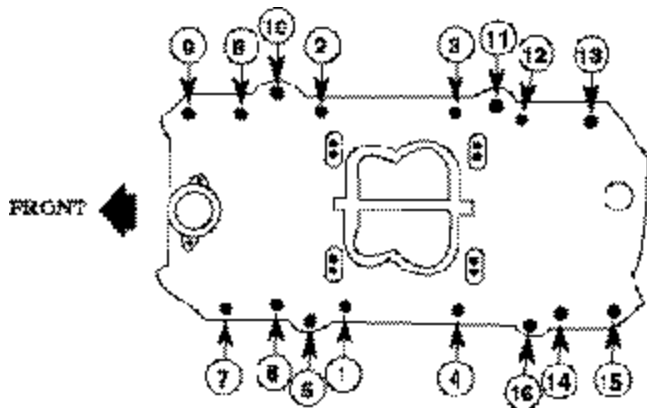

Figure 1 - Intake Manifold Bolt Torque Sequence
- 5) **WARNING:** *There is no gasket support for the manifold on the four bolt holes which are numbered 5, 10, 11, and 16 in Figure 1. Damage to the manifold will occur if these four bolts are over-tightened. Hand tighten them with a 6" box-end wrench. Do not use a torque wrench. Torque all of the remaining manifold bolts in two steps by the sequence shown in Figure 1 to 25 ft/lbs. For ease of installation, we recommend using Edelbrock Manifold Bolt & Washer Kit #8564.*